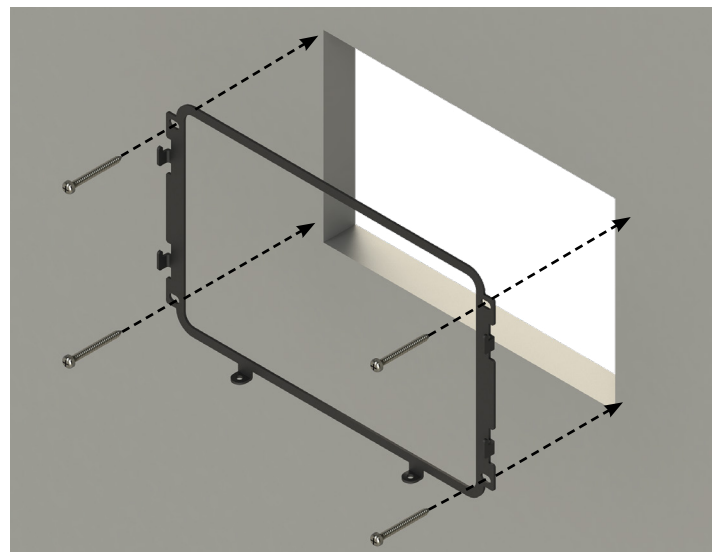

Fig.25
4. Secure the mounting bracket with the four provided 1/4" Phillips pan head sheet metal screws (Fig.25).
4. Feed the touchpad harness through this hole and run it to the compartment where the controller is mounted (Fig.25). Plug the harness into the appropriate connector on the controller.